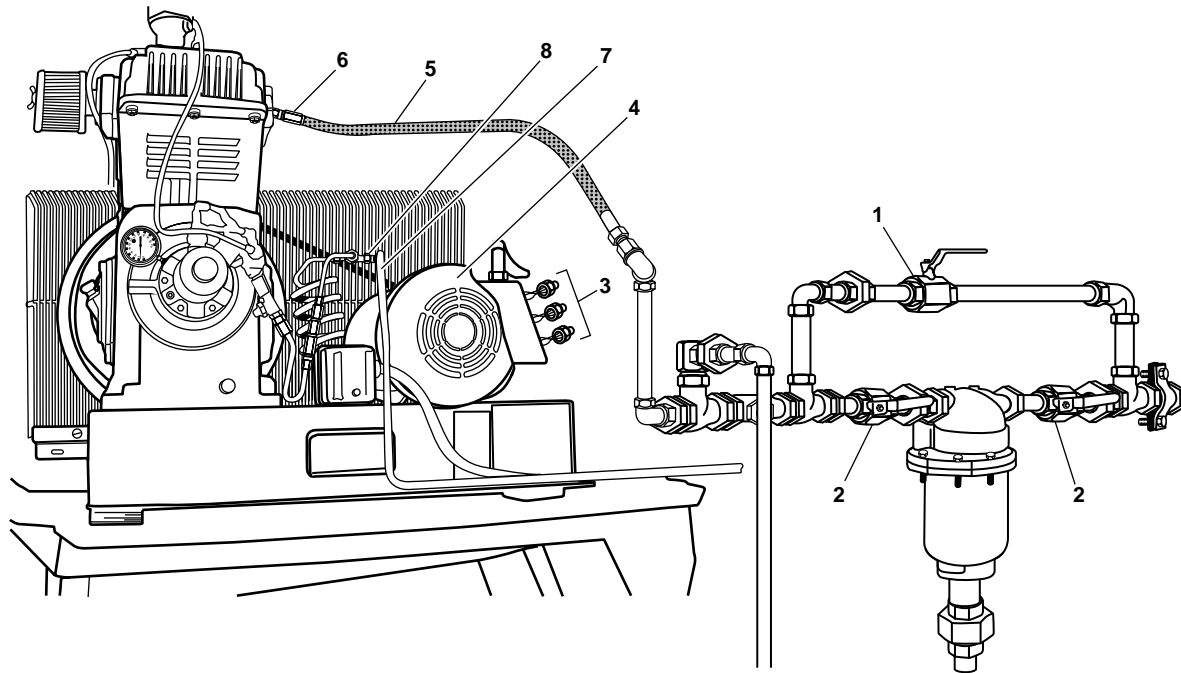

Figure 1. Dryer Cutoff and Bypass Valves
3. CLOSE, lock out, and tag out the applicable dryer cutoff and bypass valves as indicated in table 1 and figure 1.
4. Use a multimeter to check for available voltage at the motor's wiring (figure 1, item 3). If voltage is present ensure that the proper circuit breaker is set to OFF locked out and tagged out (FM 55-502). If no voltage is present, continue with procedure.
5. Label, disconnect, and remove the motor wiring (figure 1, Item 3) from the air compressor motor (figure 1, item 4).
8. Disconnect the discharge steel braided flex hose (figure 1, item 5) from the compressor at its union (figure 1, item 6).
9. Disconnect and remove the pressure tubing (figure 1, item 7) at its fittings (figure 1, item 8).
2. Connect the pressure tubing (figure 1, item 7) at its fittings (figure 1, item 8).
3. Connect the discharge steel braided flex hose (figure 1, item 5) to the compressor at its union (figure 1, item 6).
5. Connect the motor wiring (figure 1, Item 3) using the labels from step 5 of Removal as a guide. Discard the labels.